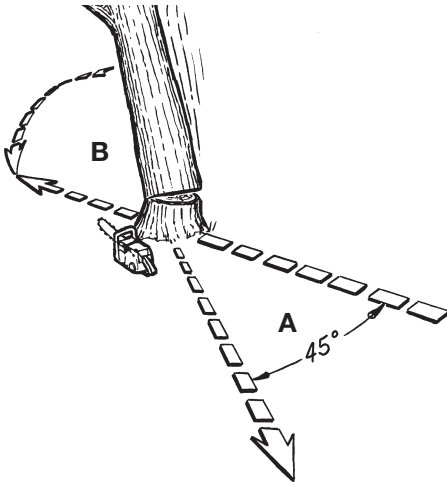

Fig. 8
WARNING: A retreat path (A) should be planned and cleared as necessary before cuts are started. The retreat path should extend back and diagonally to the rear of the expected line of fall, as illustrated in Fig. 8.
WARNING: As the felling cut gets close to the hinge, the tree should begin to fall. When tree begins to fall, stop motor, put chain saw down, and leave area along retreat path (Fig. 8).